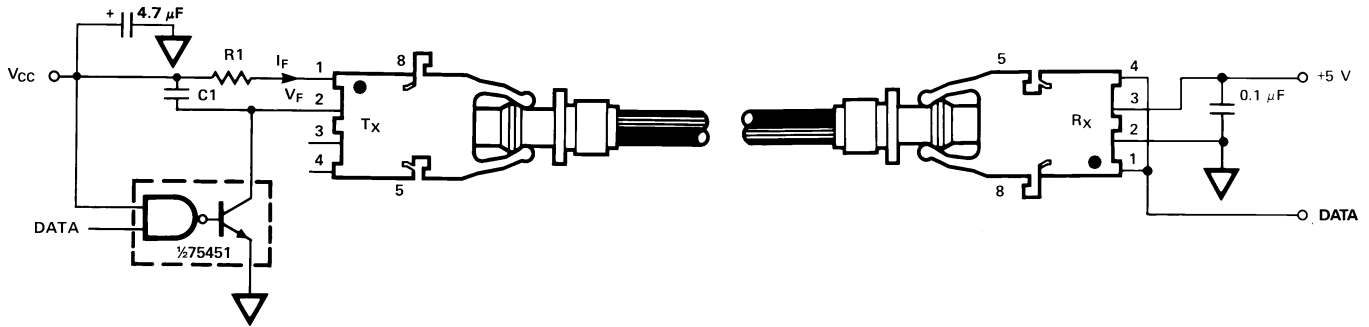

Figure 11. Required 1 MBd Interface Circuit.
The HFBR-25X2 receiver can not be overdriven when using the required interface circuit shown in Figure 11.
- The LED drive circuit of Figure 11 is required for 1 MBd operation of the HFBR-25X2/25X4.